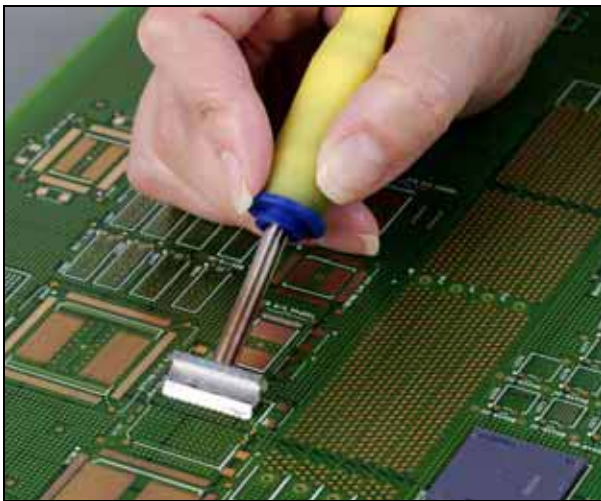

Figure 24: Removing Excess Solder
1. Remove excess solder and level the pads with solder wick and soldering iron (Fig. 24 & 25)